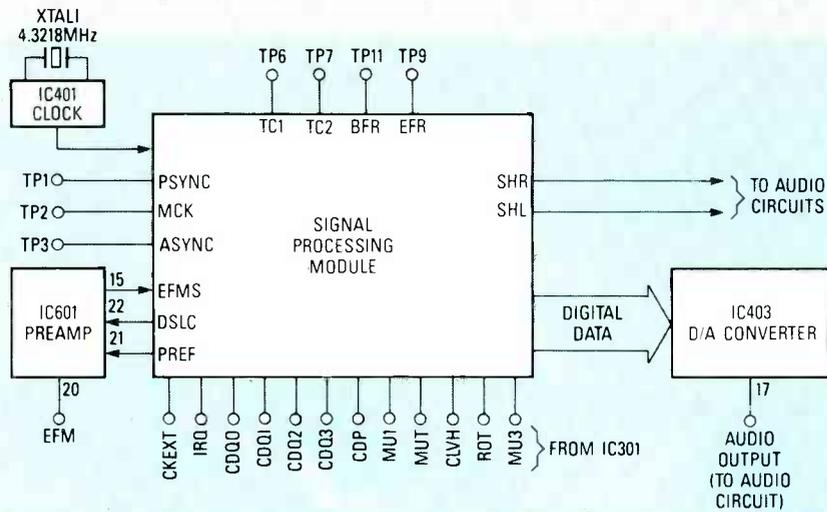

FIG. 32—A FAULTY signal-processing module can cause a variety of audio and motor-control problems.
**7. Signal processing circuit problems.** Figure 32 is the troubleshooting diagram. A failure in signal processing can cause a variety of failure symptoms in both audio and disc-motor control circuits. Likewise, a failure in system control can appear as a failure in signal processing. From a practical standpoint, there is no sure-fire way to tell if the problem is in signal-processing, system-control, disc-motor, or audio signals. However, there are checks that will help pin down the problem.
Next, if there are excessive audio dropouts, and the front-panel indications are not normal, the problem is likely in signal processing. Check all of the waveforms to and from the signal processing circuits shown in the service literature. Pay particular attention to the following (using Fig. 32 as a guide).
Check all signals (ROT, CLVH, etc.) between IC301 and the signal-processing module as shown in Fig. 32. It is not practical to analyze the waveforms of those signals. However, if you can view a data stream on each line with a scope, it is reasonable to assume that the signal is correct. If one or more of those signals is missing, suspect IC301, the signal-processing module, or both. Remember that a signal from IC301 can depend on a signal from the signal-processing module, and vice versa. So you may have to replace both the IC and the module to find the problem. Also remember that IC301 may not produce the required signals unless FOK, TOK, etc., are applied to it.